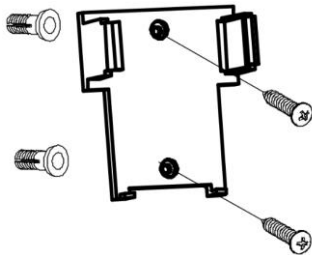

Fig. 10a
1. Locate a suitable wall to fix the remote control holder with the 2 screws & 2 anchors. (Fig.10a).